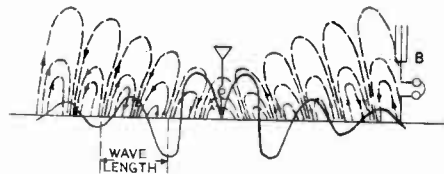

Fig. 19. Wave forms of energy transmission by electro-magnetic wave radiation.
**34. WAVE TRANSMISSION:** In Fig. 19 the common open type transmitting circuit is shown. In this circuit the disturbance in space is caused primarily by electrostatic and associative electromagnetic fields which travel outward in all directions in the form of waves. Open circuits are much more effective radiators of electrical energy than closed ones, but even with an open circuit radiator enormous power would be necessary to send out waves having
The two radiated fields move outward from the antenna at all times perpendicular to each other, the magnetic field being parallel to the ground and the electrostatic field being perpendicular to it. At the same time, both fields are at right angles to the direction of propagation of the waves. At great distances from the antenna, the electric waves would be exactly perpendicular to the earth, if the earth were a perfect conductor. Actually the resistance of the earth's surface causes the waves to tip forward somewhat as shown in Fig. 19.